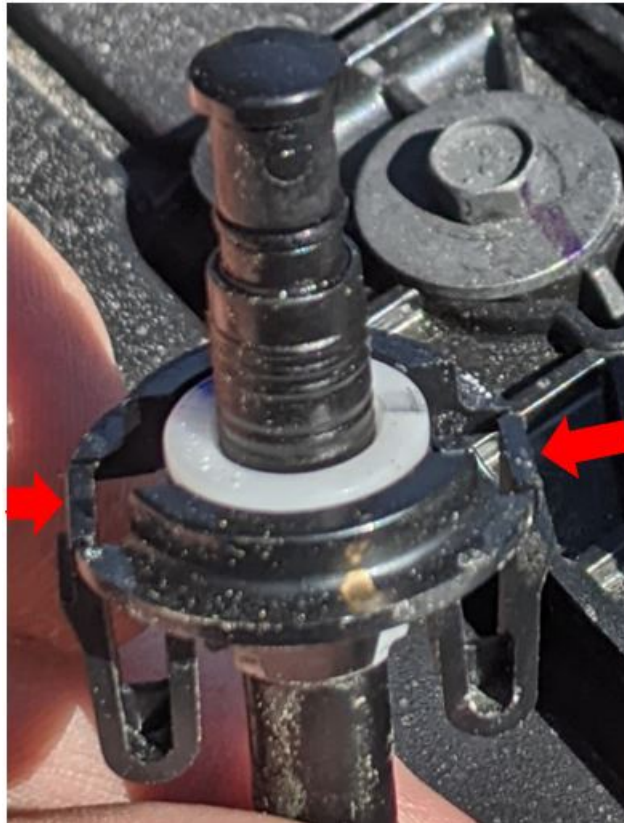

Fig. 1
1. Remove and replace the hood ajar switch. Refer to the detailed procedures available in DealerCONNECT > Service Library> under: 08 - Electrical / 8Q - Vehicle Theft Security / Switch, Hood Ajar / Removal and Installation> Plunger (Fig. 1) .